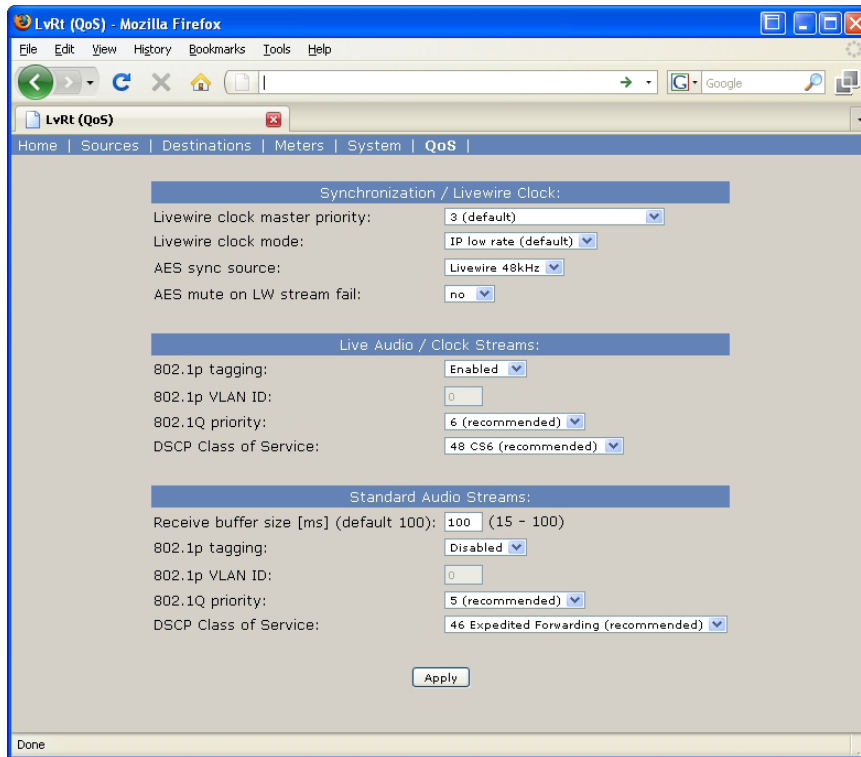

Figure 3-8: Router Selector Node - QoS Page
- Click on **Commit this version to Bank 0** box (see Figure 3-8).
The Router Selector Node node QoS page is shown in Figure 3-8. The settings on this screen are advanced settings, and generally the default settings should be used.